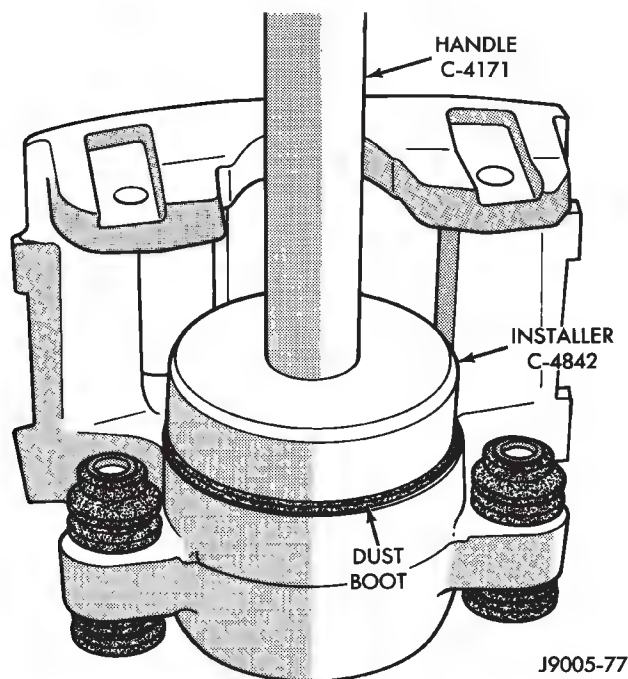

Fig. 24 Seating Caliper Piston Dust Boot
(7) Press caliper piston to bottom of bore.
(8) Seat dust boot in caliper with Installer Tool C-4842 and Tool Handle C- 4171 (Fig. 24).
(9) Install caliper bleed screw if removed.